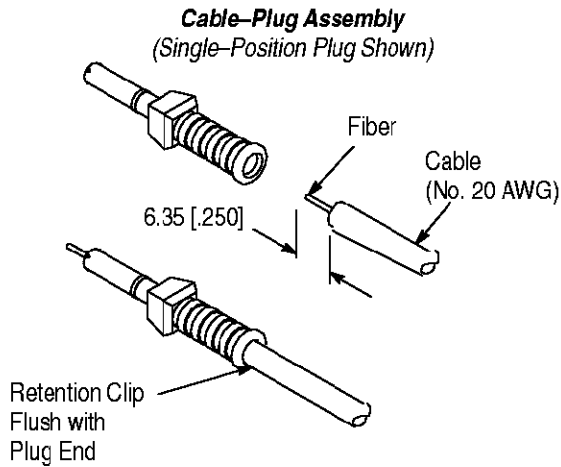

Figure 2
1. Strip approximately 6.35mm [0.250 in.] of jacket from the fiber using Insulation stripping tool. Make sure the stripping tool is set for No. 20 AWG cable or 1000- μ m fiber. See Figure 2.
2. Using the insertion tool, push the stripped cable into the plug until the cable bottoms and excess fiber extends out the nose of the plug. See Figure 2.